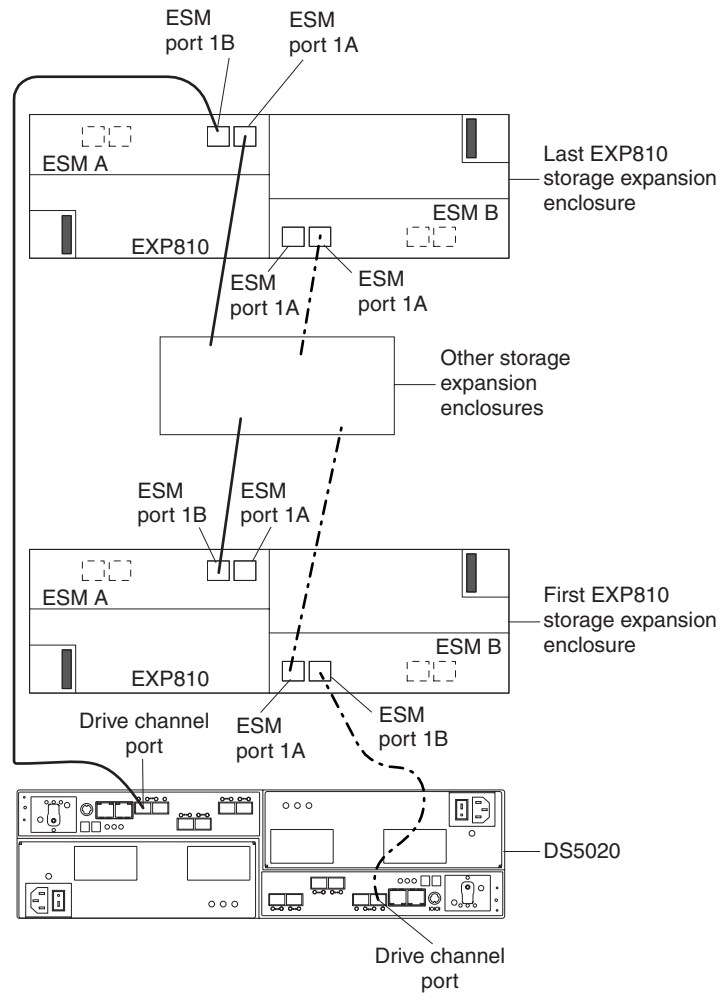

Figure 45. DS5020 drive ports connected to EXP810 ESM ports labeled 1B
10. The controller drive ports of the DS5020 storage subsystem controllers must always be connected to ports labeled 1B in both the right and left ESMs of the EXP810s in the redundant drive channel/loop pair that is connected to the DS5020 storage subsystem. Figure 45 on page 69 shows the location of the ports.